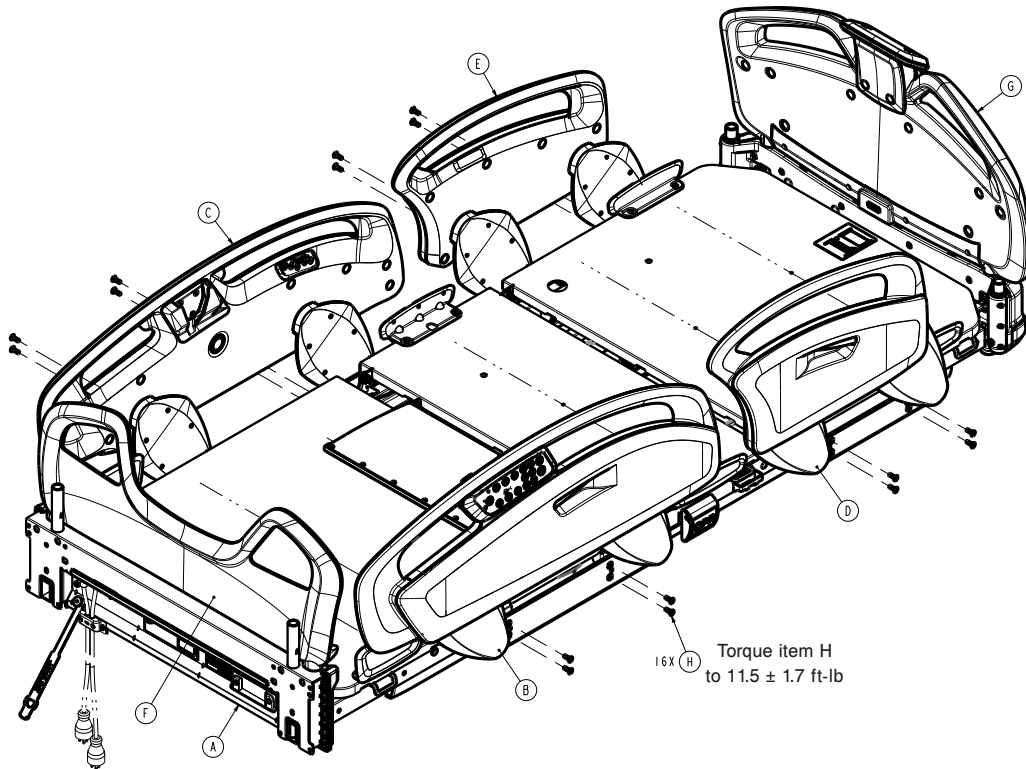

Figure 39 – Replacing the siderail hoop
20. Using a T27 Torx driver while you support the siderail, remove the four bolts (H) that secure the siderail mounting bracket to the Fowler frame (Figure 39). Remove the siderail assembly.
12. Using a T27 Torx driver while you support the siderail, remove the four bolts (H) that secure the siderail mounting bracket to the Fowler frame (Figure 39). Remove the siderail assembly.
13. Using a T27 Torx driver while you support the siderail, remove the four bolts (H) that secure the siderail mounting bracket to the litter frame (Figure 39). Save the bolts. Remove the siderail assembly.